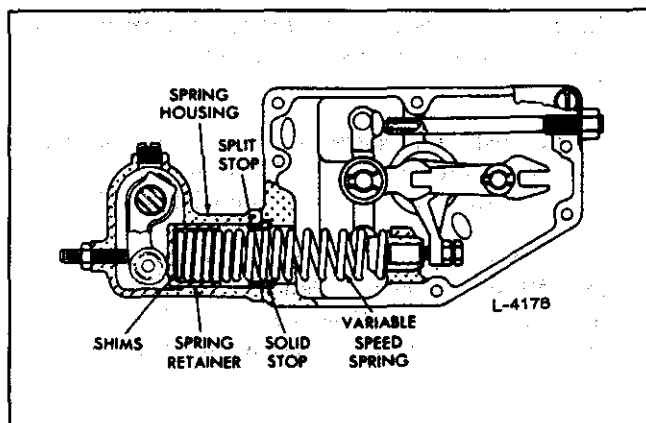

Fig. 6 - Location of Shims and Stops
3. Refer to Table 1 and determine the stops or shims required for the desired full-load speed. A split stop can only be used with a solid stop (Fig. 6).